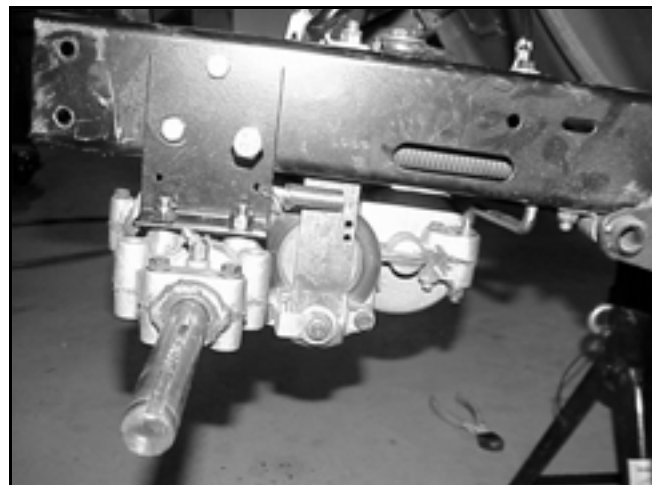

Figure 22
7. Connect the brake return spring to the brake lever (Figure 22).